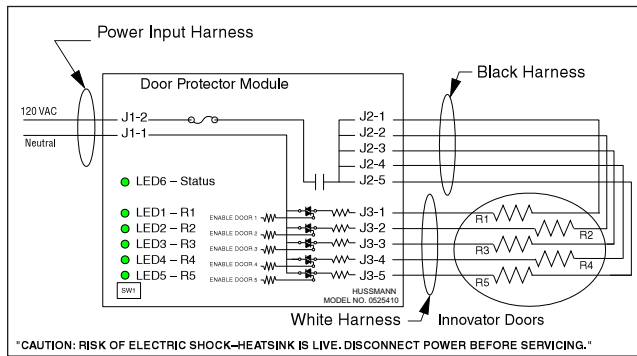
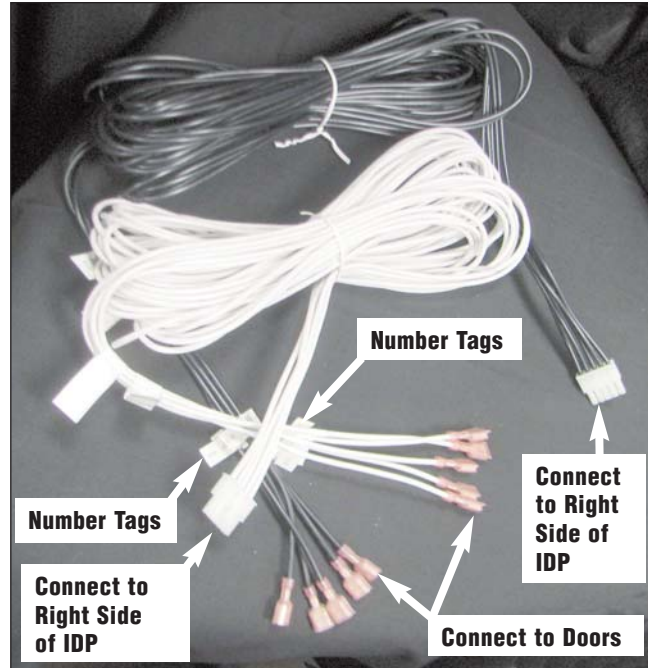
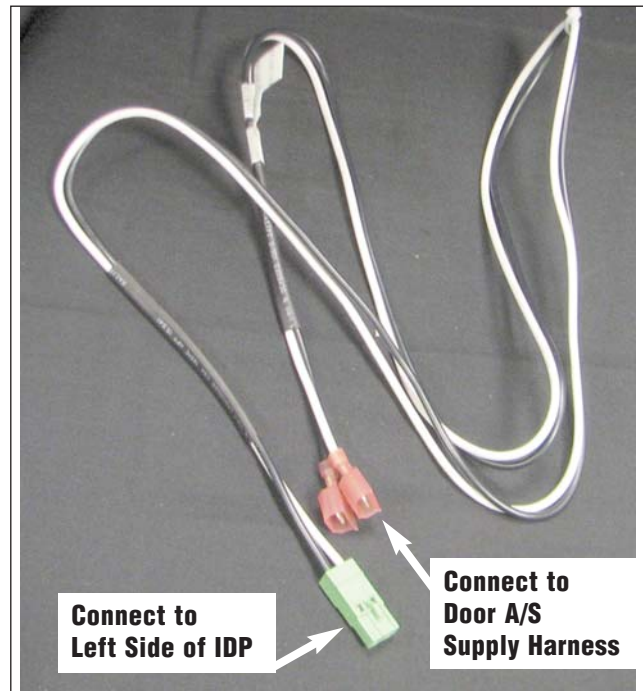

Figure 2 — Wiring Diagram
Figure 3 — Connecting Door Harness
Figure 4 — Connecting Power Harness
Connect the IDP door harness (black) to the IDP per the wiring diagram, Figure 2.
Connect the IDP door harness (black) conductor #1 to the existing hot lead of door harness #1 as shown in the wiring diagram, Figure 2. Connect the remaining IDP door harness (black) conductors to their corresponding hot lead of the door harness per the wiring diagram, Figure 2. For convenience, individual conductors are tagged 1 through 5 to match the J2 connections. Match pairs when connecting IDP door harnesses, see Figure 3.
Connect the IDP door harness (white) to the IDP per the wiring diagram, Figure 2.
Connect the IDP door harness (white) conductor #1 to the existing neutral lead of door harness #1 as shown in the wiring diagram, Figure 2. Connect the remaining IDP door harness (white) conductors to their corresponding neutral lead of the door harness per the wiring diagram, Figure 2. For convenience, individual conductors are tagged 1 through 5 to match the J3 connections. Match pairs when connecting IDP door harnesses, see Figure 3.
7. Connect power supply wire shown in Figure 4 to left side of IDP and to the Door A/S Power Supply Harness, hot to hot, neutral to neutral. Reference Figure 2.